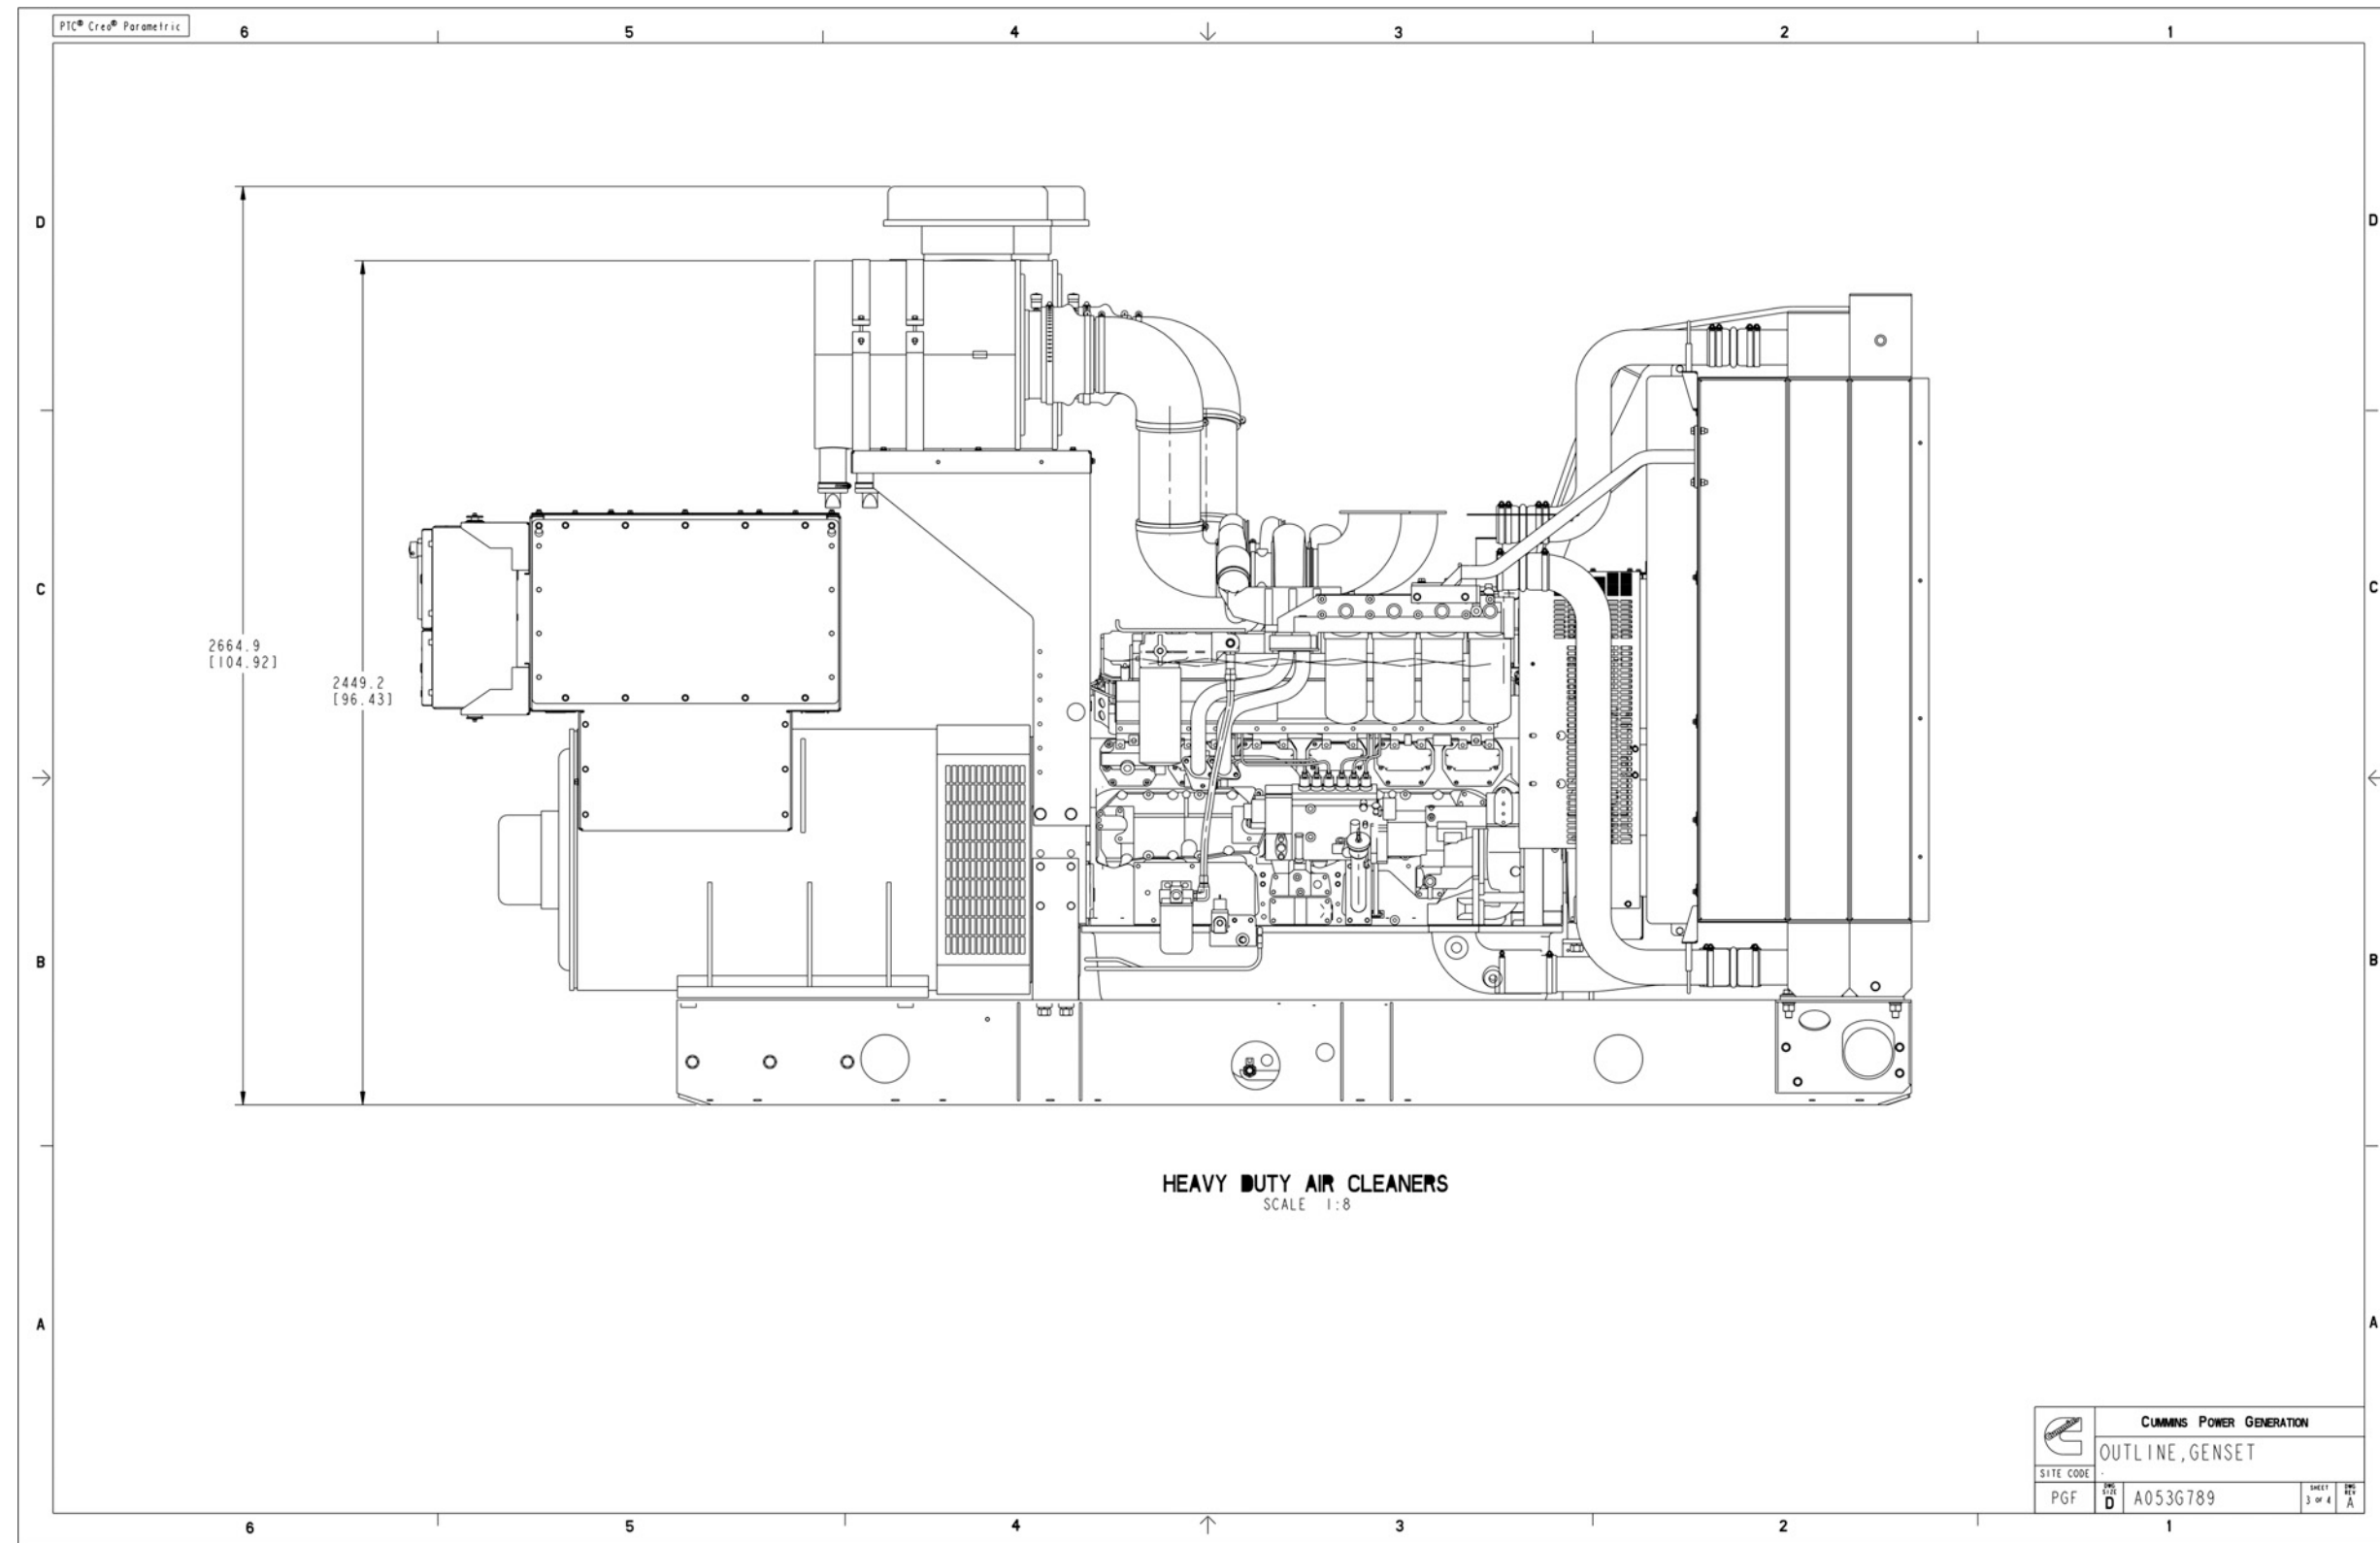

FIGURE 63. GENERATOR SET OUTLINE DRAWING (BEARWARD SET MOUNTED RADIATOR) (SHEET 3)
- Figure 63. Generator Set Outline Drawing (Bearward Set Mounted Radiator) (Sheet 3) 129